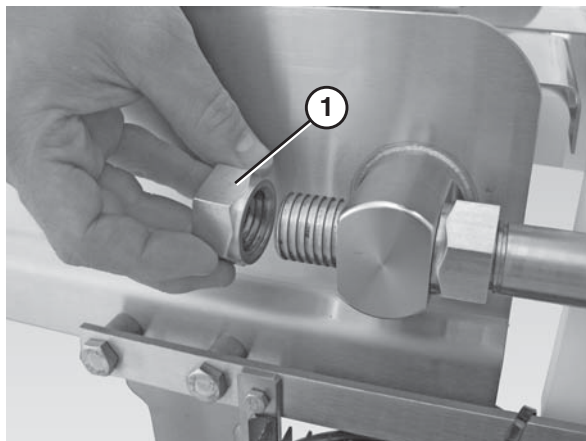

Figure 69
1. Remove the back nuts (Figure 69, item 1) on both discharge nose bar shafts.